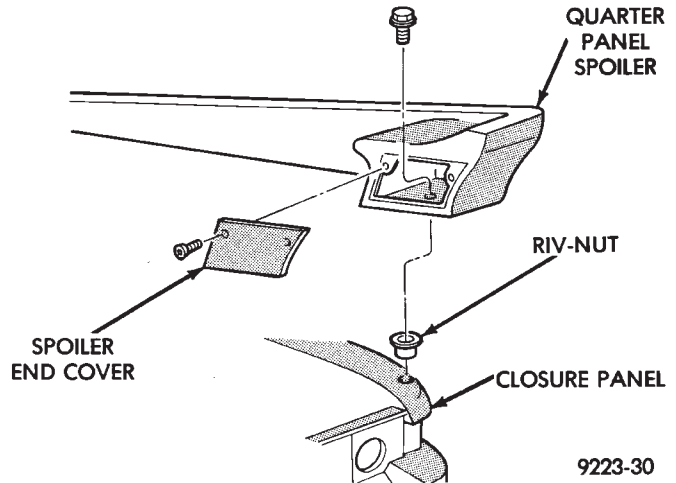

Fig. 38 Quarter Panel Spoiler
REMOVAL (FIG. 38)
(1) Remove access cover from lift gate opening end of quarter panel spoiler.
(2) Remove bolt holding spoiler to tail lamp closure panel.
(3) Remove quarter trim panel.
(4) Remove nuts holding spoiler to quarter panel from behind quarter panel above rear wheelhouse (Fig. 38).
(5) Separate spoiler from vehicle.